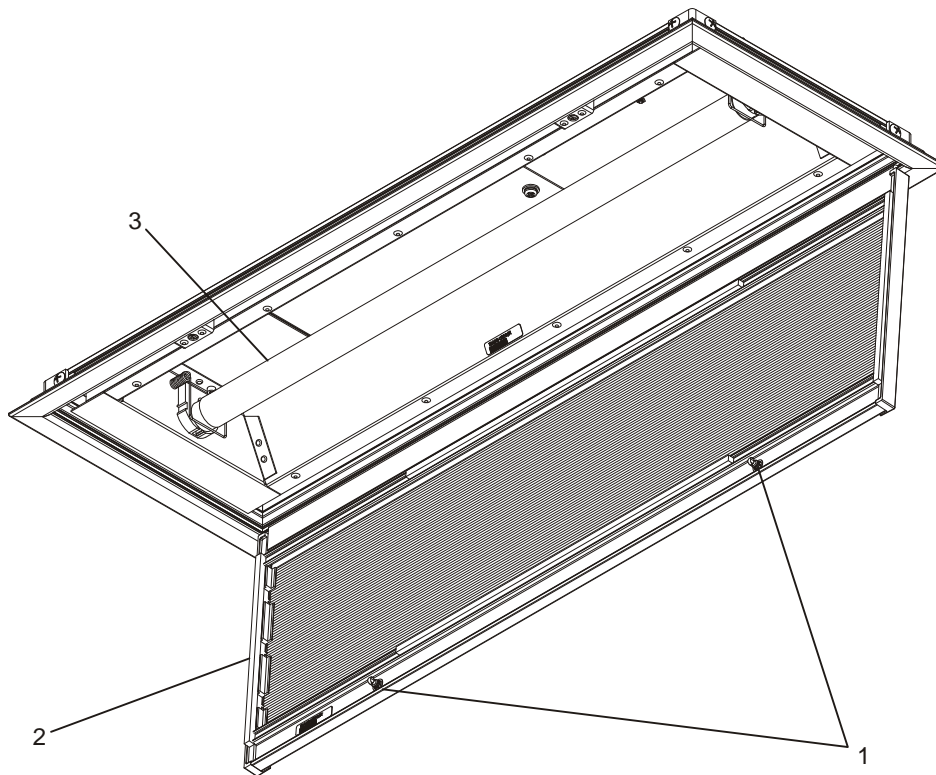

Figure 7-2: Replace Articulation LED Tube Lamp
2. Rotate two fasteners (1, Figure 7-2) on the bezel/lens assembly (2) one-quarter turn to the left.
4. Rotate lamp tube (3) one-quarter turn and remove.
5. Install replacement lamp tube (3) and rotate one-quarter turn in the opposite direction.
7. Close bezel/lens assembly (2) and rotate two fasteners (1) one-quarter turn to the right.